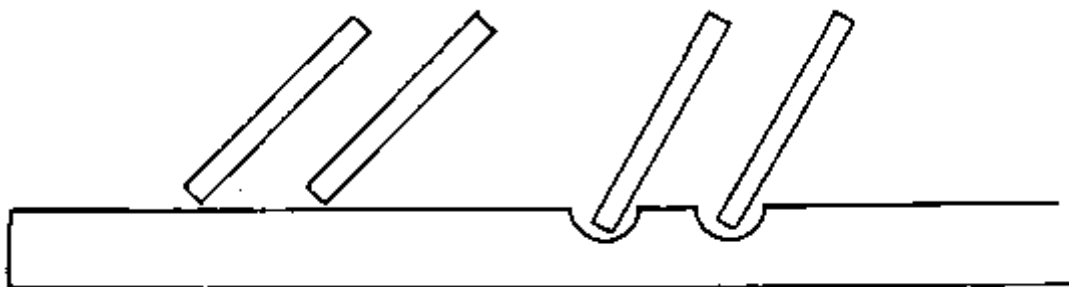

Figure 1. Left, the original position of the louvres. Right, new position with notches filed in the bar.
- I found that the centre holding bar of the louvres needed a small notch cut into it where every louvre touched hard against it in the new open position. (Figure 1). Use a triangular file or the side of a drill bit (hardly kosher!). This notch relieved any tension on the louvre because of the new top and bottom positions.